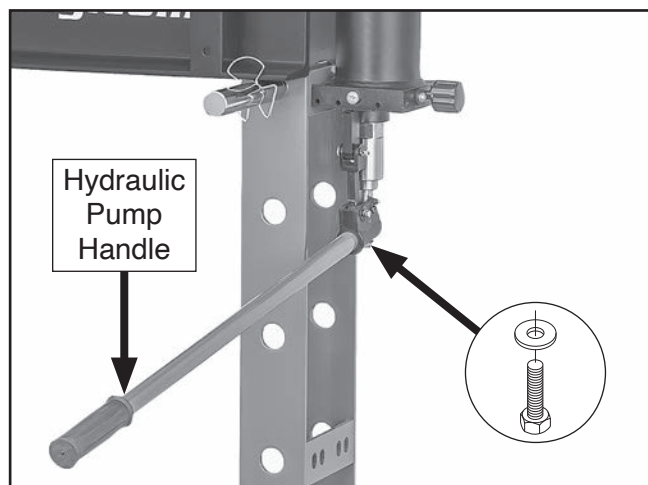

Figure 13. Hydraulic pump handle installed.
17. Install hydraulic pump handle on hydraulic pump with pre-installed M8-1.25 x 16 hex bolt and 8mm flat washer (see **Figure 13**).